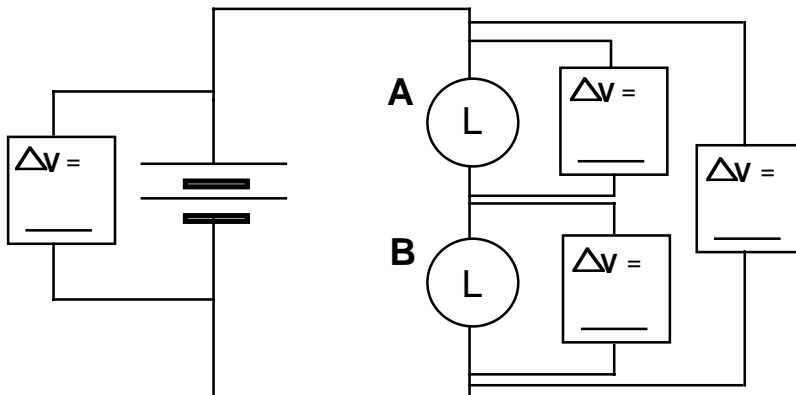

Figure 6.4a
1. Color code the wires for the circuit diagram in Figure 6.4a, using red-to-blue for the pressure difference maintained by the battery between its terminals. Do not connect the voltmeter yet.
3. Your teacher will provide a voltmeter. Connect the voltmeter to each of the locations indicated in Figure 6.4a, and record the readings provided by this instrument in the corresponding spaces on the figure.